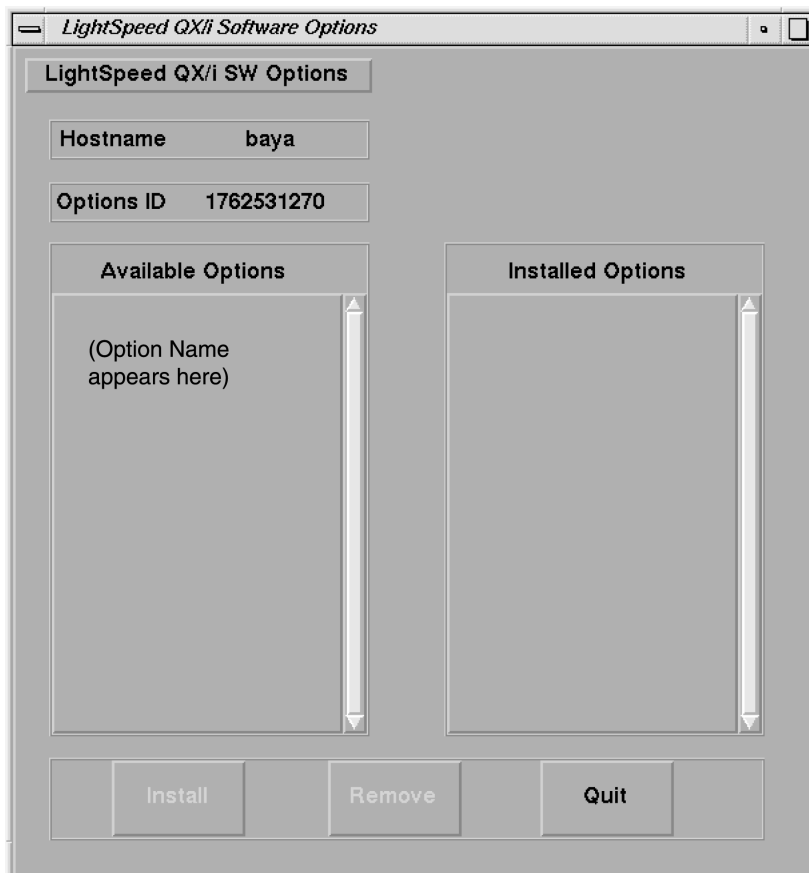

Figure 6-5 Sample Software Options Screen
- 6.) Select OK to display a software options screen similar to the one shown in Figure 6-5.
- 13.) Refer to Figure 6-5